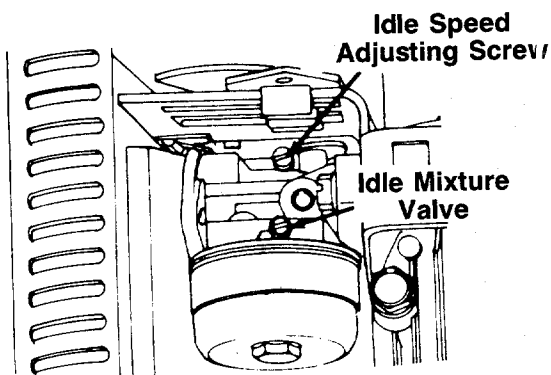

FIGURE 25.
**NOTE:** If a warm engine falters or stalls when attempting to engage the blade, the carburetor mixture should be adjusted 1/8 turn richer (counterclockwise). See figure 25.